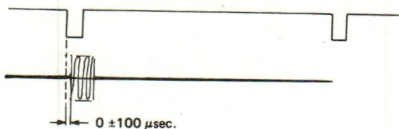

Fig. 5-6 (a) Index Phase Specification
- e. Check if the phase relation between the INDEX signal and output signal meets the specification shown in Fig. 5-6 (a).